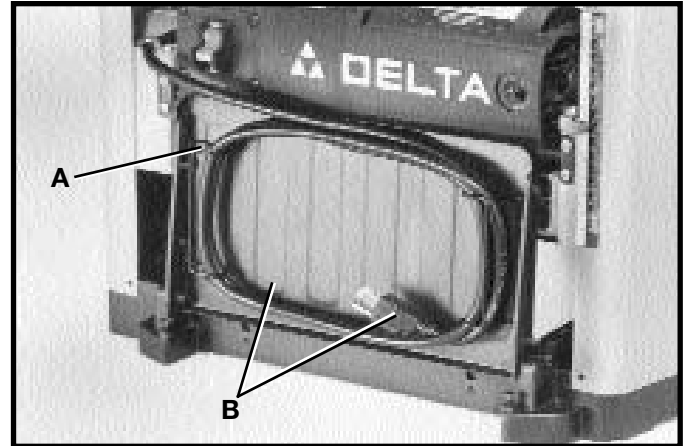

Fig. 18
Wire hangers (A) Fig. 18, are provided on the underside of the outfeed extension table as shown, to store the power cord (B) when the planer is not in use and when transporting the machine.